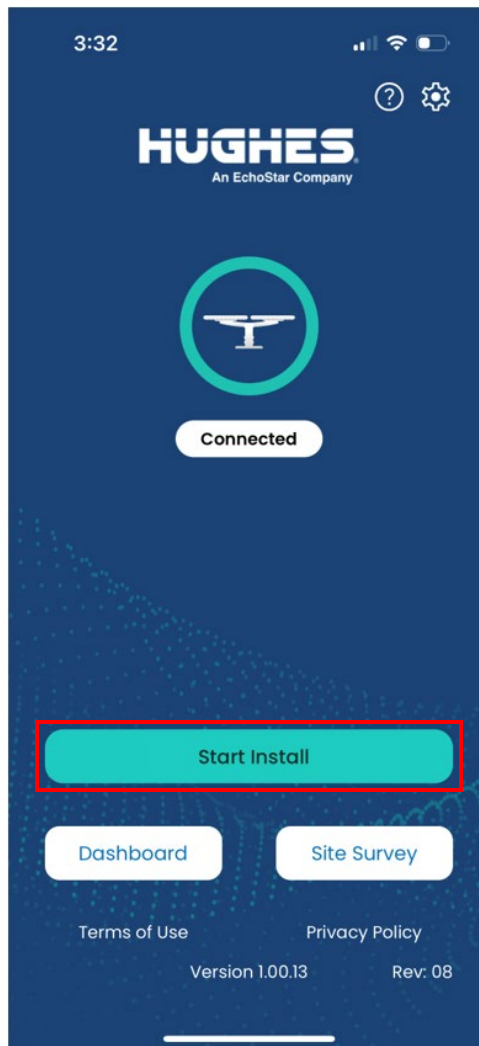

Figure 82: Start Install button to start fresh commissioning
3. Once the landing screen is displayed, click **Start Install**, as shown in Figure 82.